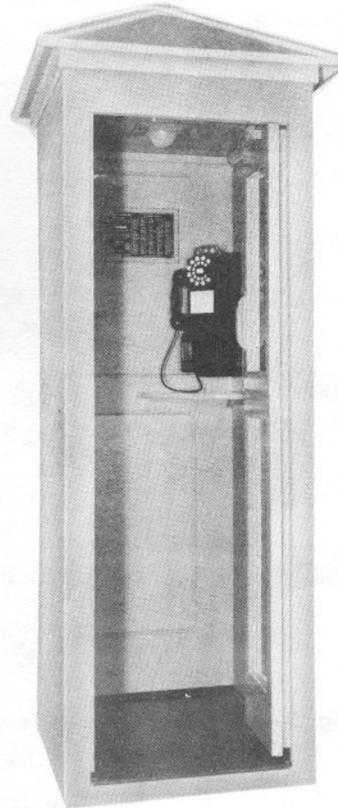

Fig. 9 – 9A Booth
3.01 The 9A booth is equipped with a peaked roof of galvanized sheet iron or other material for outdoor use (see Fig. 9). The 9B booth is equipped with a flat plywood roof for use at semiexposed locations.